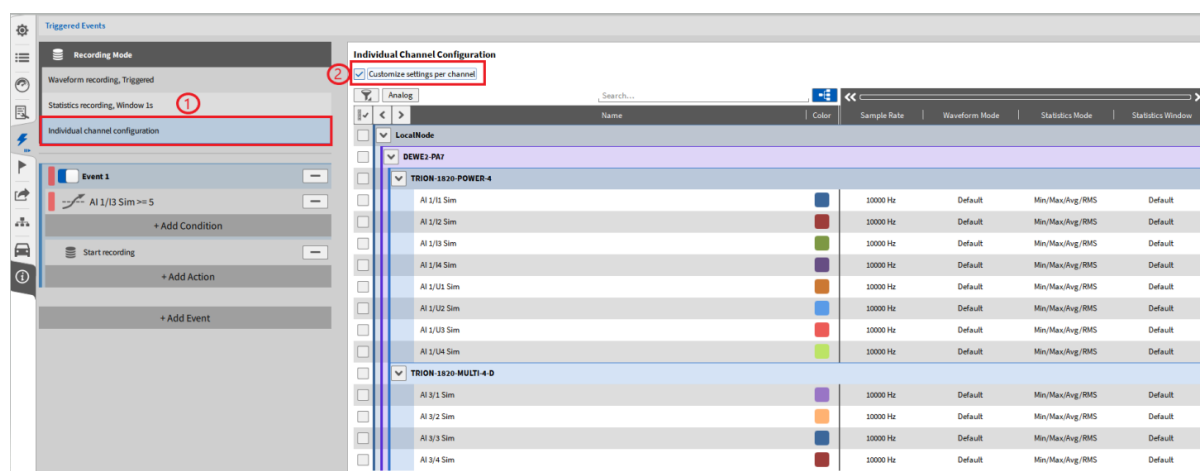

Fig. 9.42: Individual channel configuration in Trigger Menu
The advanced storing modes are available in the Trigger Menu, in the individual channel configuration section (see ① in Fig. 9.42). The individual channel configuration includes the following options:
In order to activate the individual channel configuration click on the checkbox button Customize settings per channel (see ② in Fig. 9.42).